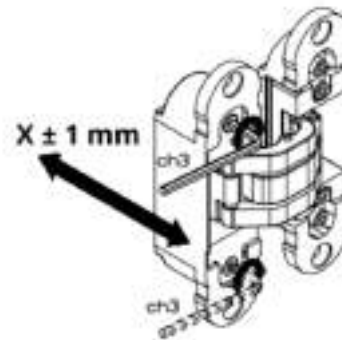

Figure 2
5. The side adjustment is performed on the part of the hinge fixed on the shutter with a 3 mm hexagonal wrench by acting alternately on the two screws indicated in figure 2.